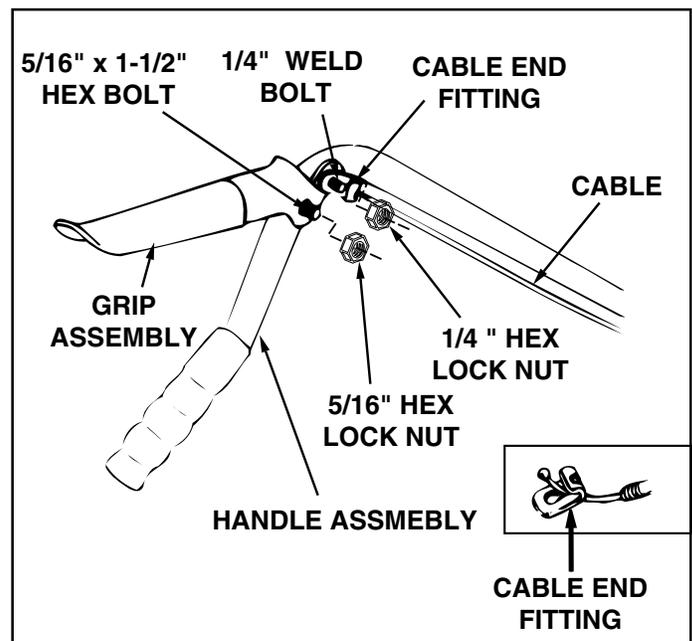

FIGURE 19 (Right Hand Side View)
- Assemble grip assembly to handle assembly using one 5/16 inch x 1-1/2 inch hex bolt and one 5/16 inch hex lock nut. **Do not overtighten** lock nut; grip assembly must pivot freely. See figure 19.
- Assemble ball end of cable to a cable end fitting as was done previously to other end of cable. Secure cable end fitting to handle assembly with a 1/4 inch hex lock nut. **Do not overtighten** lock nut; cable fitting must pivot freely. See figure 19.